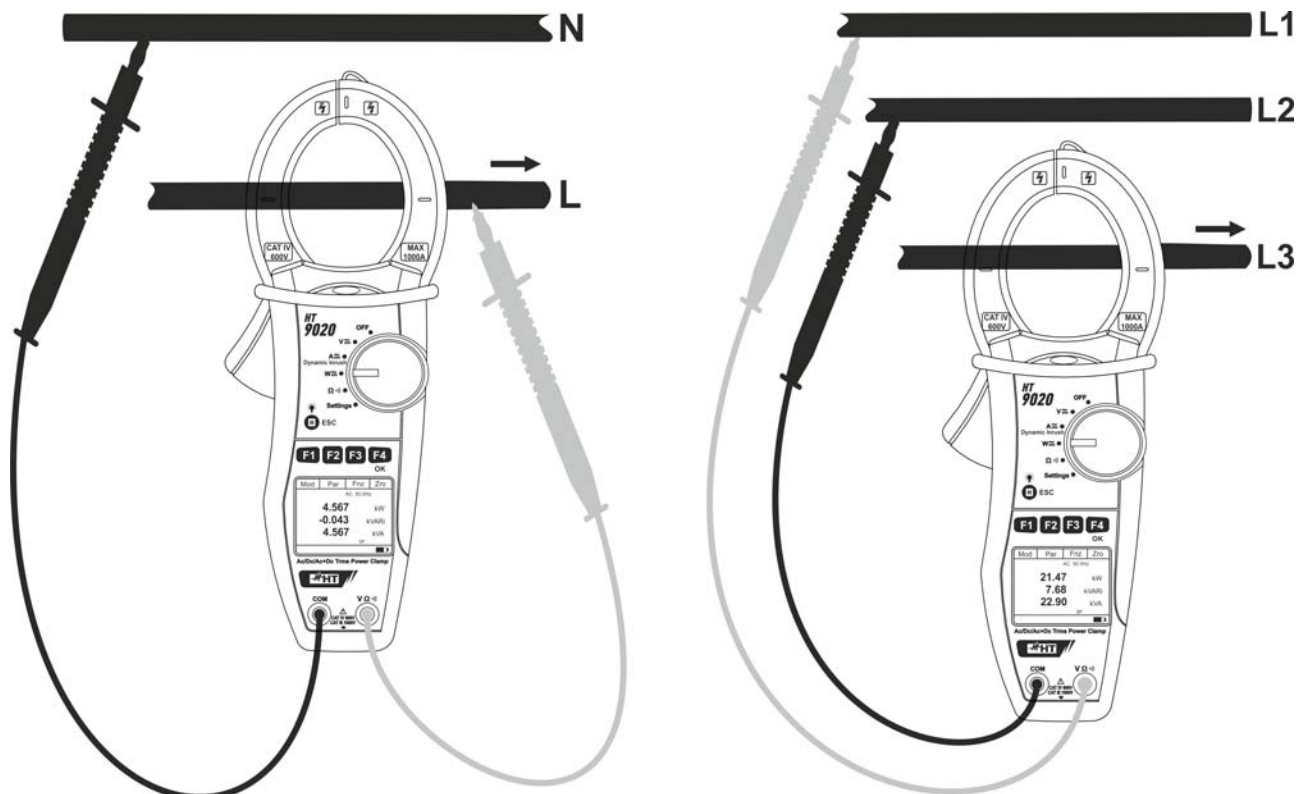

Fig. 12: AC/AC+DC power measure on Single phase and balanced Three phase systems
5. Connect red cable to input lead **VΩ[Ⓜ]** and black cable to input lead **COM** then perform the connection as indicated in Fig. 12 depending on the type of system under test. Put the phase cable into the clamp jaws respecting the direction of current indicated by the arrow (see Fig. 12). Connect the cable to the middle of the clamp jaws, in order to get accurate measurements. Use the marks as a reference (see Fig. 2)